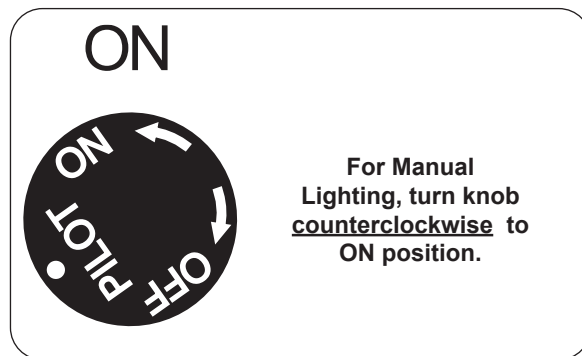

Fig. 11-3 Control knob detail (ON)
2. Turn the gas control knob counterclockwise to **ON** (Fig. 11-3) to ignite the burner. The valve will open and the burner will light.